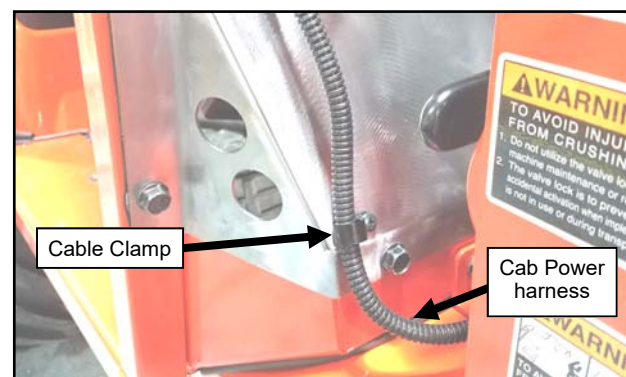

Fig. 19.7 (Secure Harness with Cable Clamp)
19.7 Secure the wire harness to the outside of the cowl with a cable clamp. See Figure 19.7.